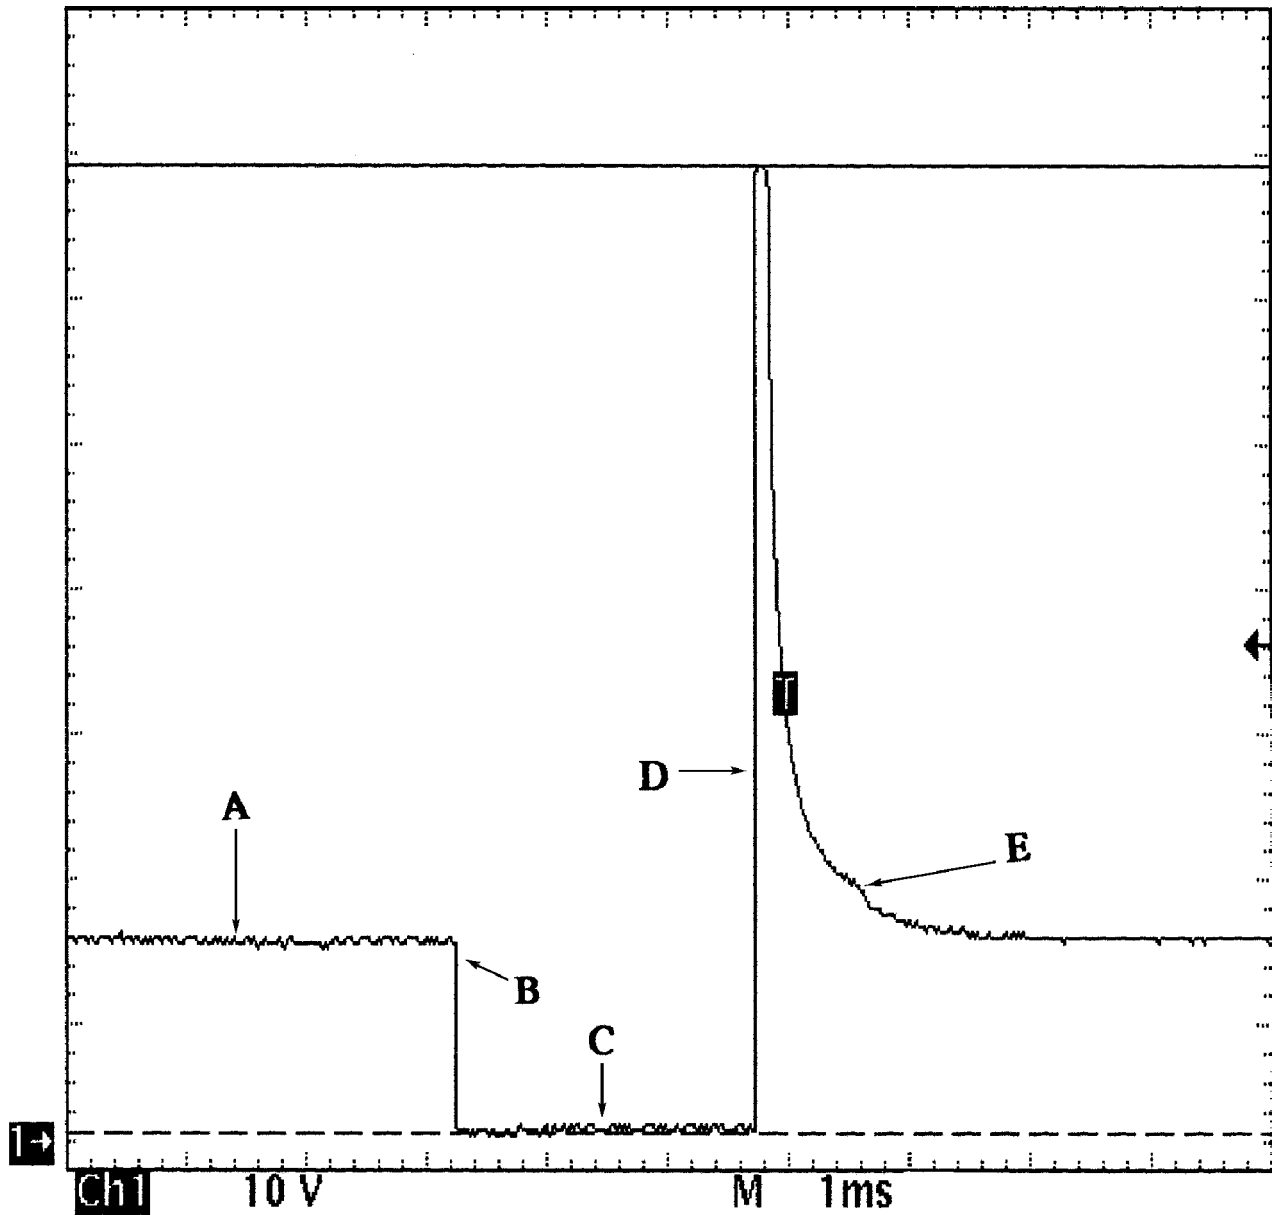

Fig. 2: Identifying Voltage Controlled Type Injector Pattern
* See Fig. 2 for pattern that the following text describes.